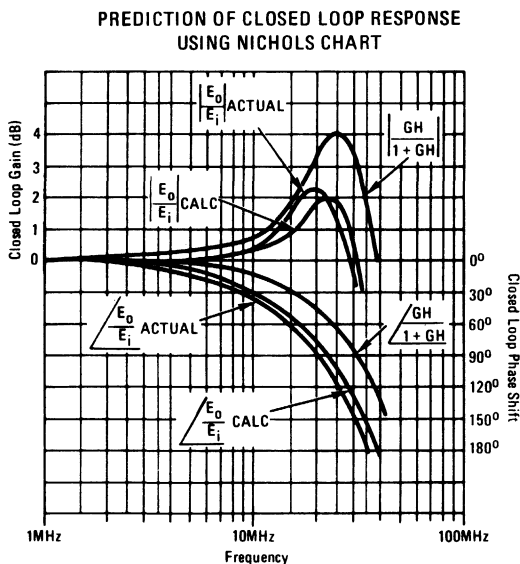

Figure 8
- (4) Transfer these points to semi-log paper and add the pole given by  $\omega = \frac{1}{R_f C_f}$  (or  $f_p = 32\text{MHz}$  for this case) to obtain the calculated closed-loop response,  $(\frac{E_o}{E_i})_{\text{CALC}}$  shown in Figure 8.
- (5) Obtain Bandwidth, Peaking and closed-loop phase margin from the closed-loop response given in Figure 8.